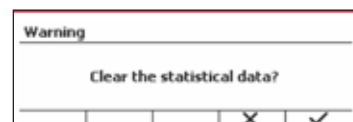

Figure 32
- To clear accumulation results, press the button. (See Figure 32)